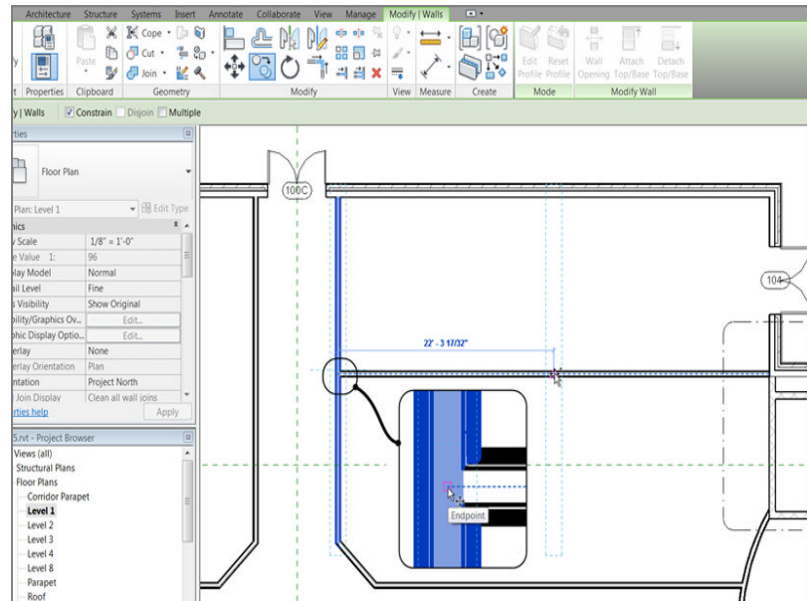

FIGURE 4.4 : Creating a copy of the corridor wall
2. Zoom and pan so you're focused on the east wing, as shown in Figure 4.4.
3. Select the right corridor wall (see Figure 4.4).
6. Zoom in on the wall close to the midpoint of the selected wall and the intersection of the horizontal wall that divides this portion of the building (see Figure 4.4).
When you see that you're snapped to the endpoint of the horizontal wall, pick the point (see Figure 4.4).